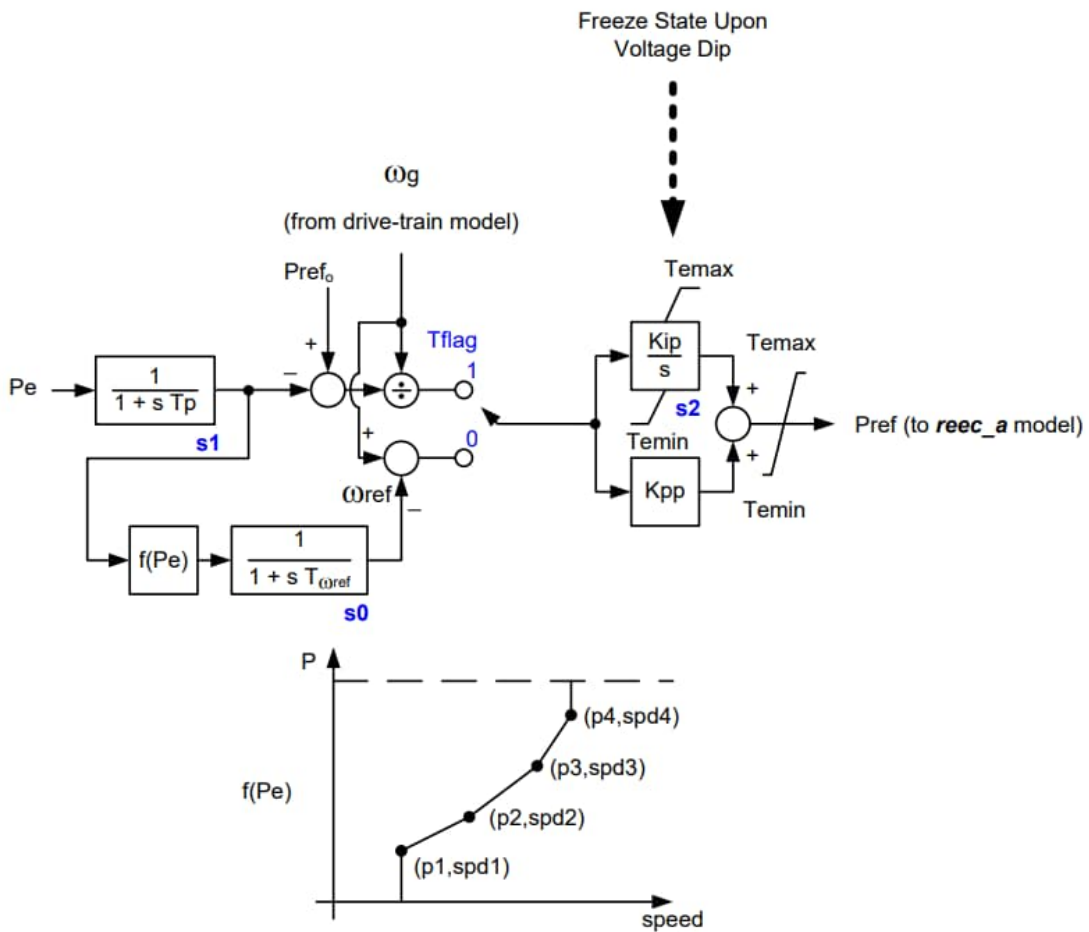

Figure 5 WTGP_A model [7].
4. WTGQ_A – which is the torque controller (see Figure 5). This model is used for type 3 WTG plants.